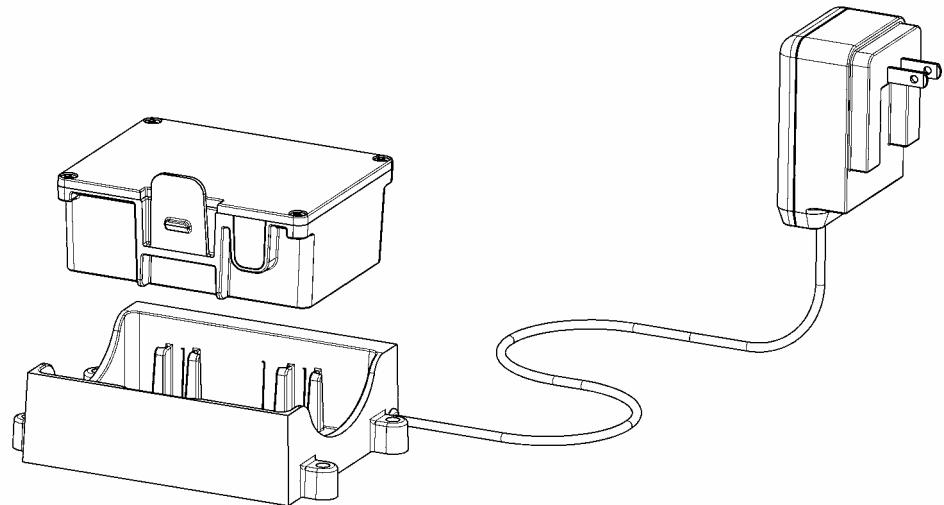

Figure 2-10: Battery and Batter Charger
- To charge a battery, insert it in the battery charger (see Figure 2-10). Then plug the battery charger into a standard electrical outlet (110 volts). It will take 12 to 16 hours to provide the initial charge for a new battery. Once a battery has been used, it should take no more than 3 to 4 hours to recharge it. A red light on the battery charger indicates that the battery is being charged. A green light indicates that the battery is fully charged. When a battery is fully charged, the charger goes into trickle mode, so there is no danger of damaging a battery by overcharging it.